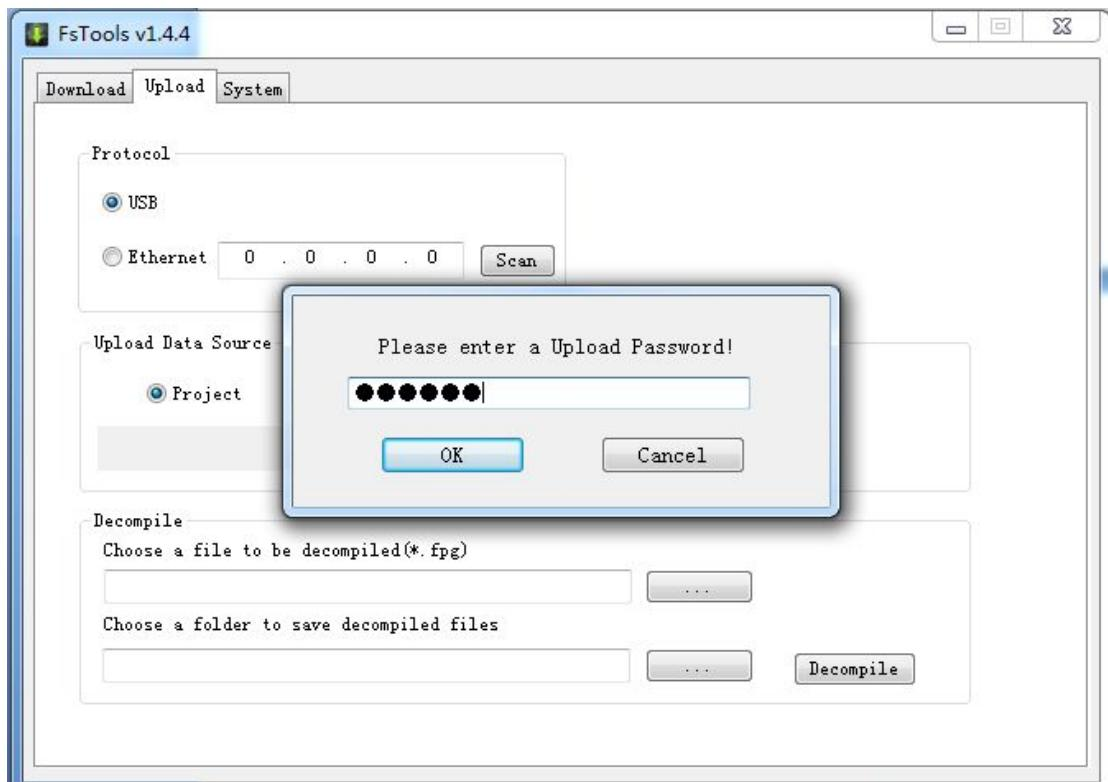
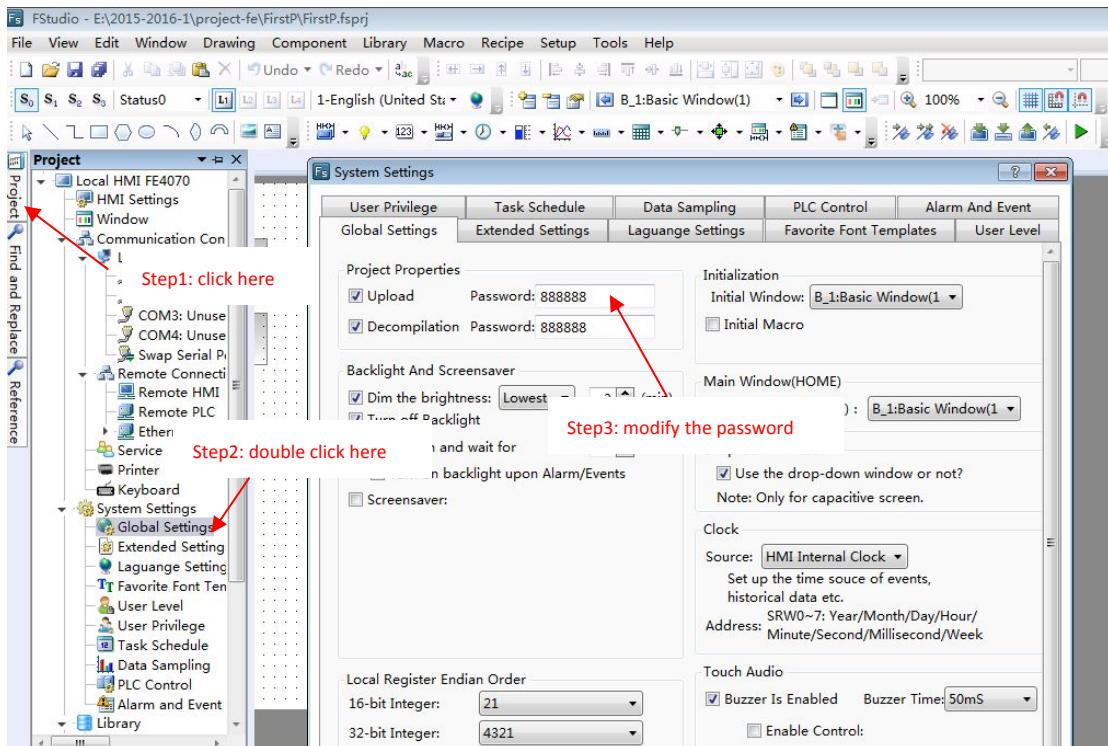

Fig. 21
Fig. 22
② Enter the password for uploading, as shown in Fig. 21. The default password is “888888” which can be modified in “Global Settings”, as shown in Fig. 22.
- ③ Select the project uploading path and save the file name, and click "Save".
- ④ If the screen is correctly connected to the computer, the packaging operation will be started for uploading. Select the "Project" option, and click the "Upload" button, as shown in Fig. 21.